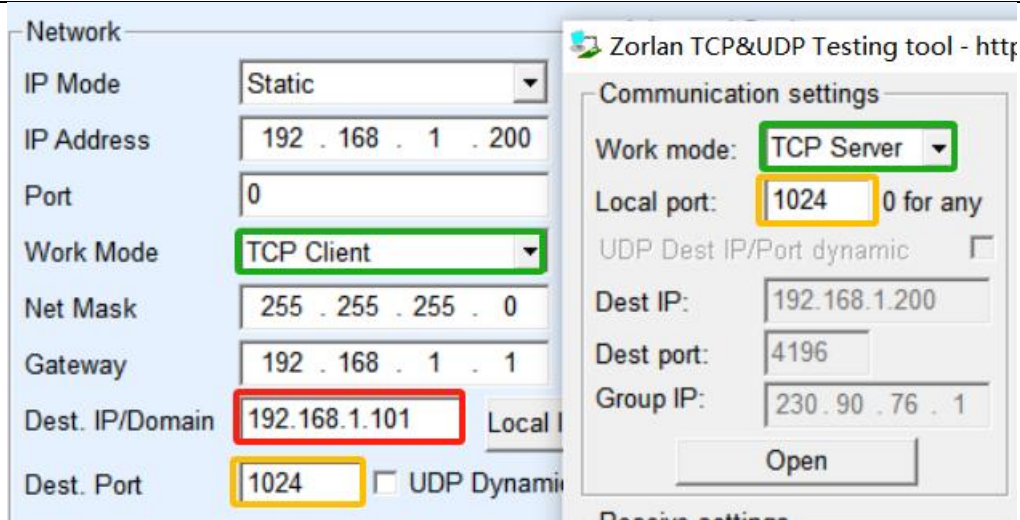

Figure 28 Serial server as client
When the serial server acts as the client, there must be three mappings, as shown in Figure 28. (1) Working mode: The working mode of the serial port server is the server mode of the network tool corresponding to the client. (2)IP address: The destination IP address of the serial port server must be the IP address of the computer where the network tool is located. (3) Port: The destination port of the serial port server must be the local port of the network tool. After this setting, the serial port server can automatically connect to the network tool and send and receive data after the connection is established.